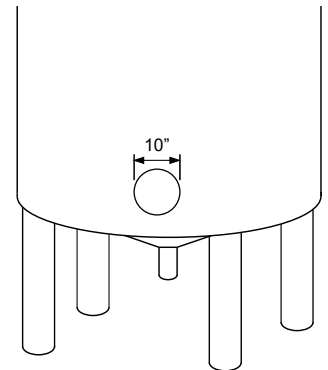

Fig. 1 Location
- 2) Select an area about 10" in diameter where it is a free and clear of any obstructions. See Fig. 1 Location.